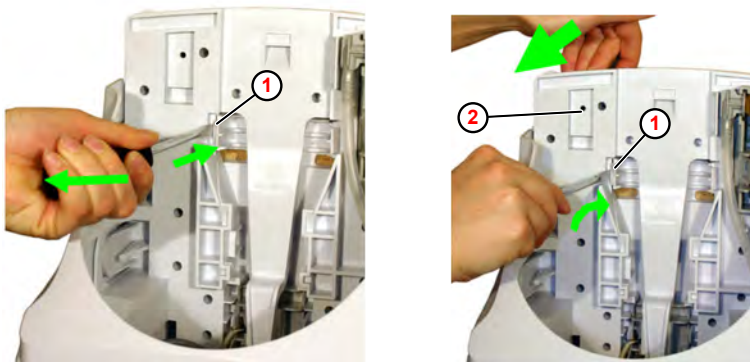

Fig. 19: Removal from the holder (shown with EcoPlus S)
1. ➤ Insert a large flat-headed screwdriver (Fig. 19 , ①) (broad blade) between the catch and the rear wall of the unit.
2. ➤ Turn the screwdriver until the catch opens and, at the same time, pull the unit ② forwards with the other hand.